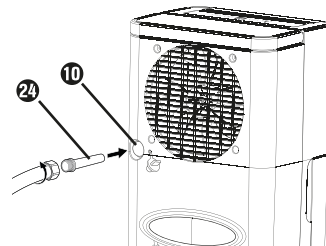

Fig. 5
- ◆ When using the EU garden hose adapter 24, screw a garden hose onto the EU garden hose adapter 24 (see figure 5).